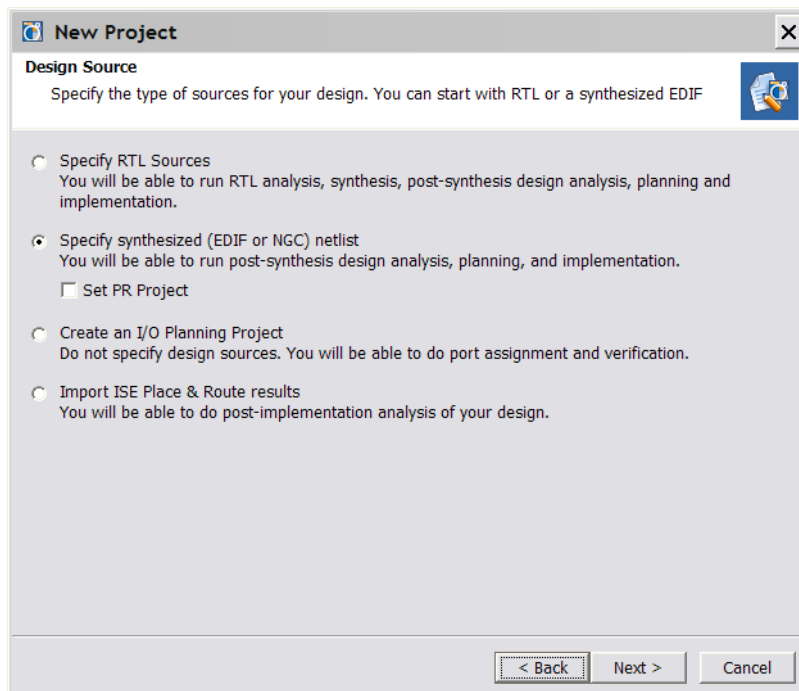

Figure 3: Design Source Page
- 1-1-5. In the Design Source page, select **Specify synthesized (EDIF or NGC) netlist** and click **Next** (Figure 3).